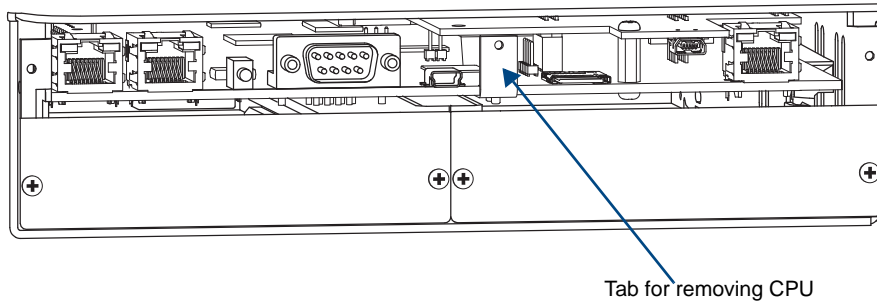

FIG. 116 Use tab to pull CPU board straight out
- Use the tab indicated in FIG. 116 to pull the CPU board straight out of the enclosure.
16. Check the CPU's System Status LED for indications of normal display (see table below FIG. 116).